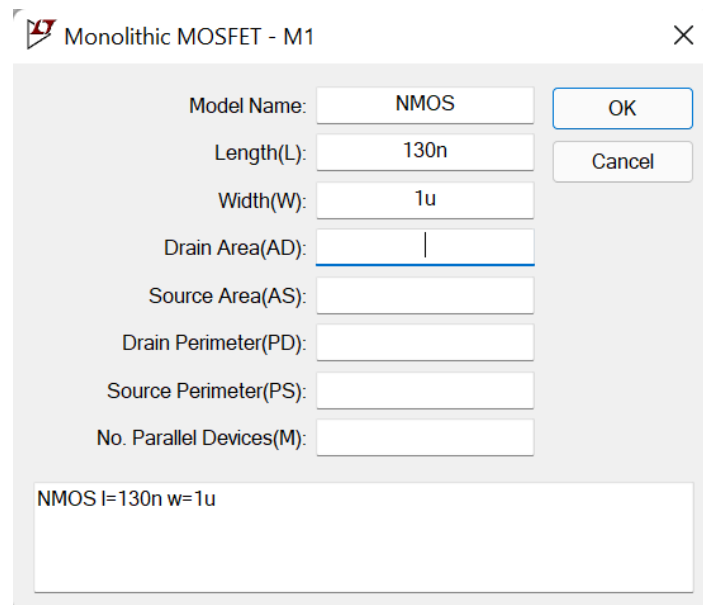

Fig. 6. MOS transistor dimensions settings
7. Adjust the dimensions of the transistor by right-clicking on the symbol. For example, a channel length of 130 nm and a channel width of 1 μ m (Fig. 6).